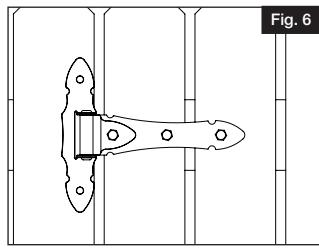

Fig. 6
- a. Position gate at desired height on post. Horizontal rails on gate should be even with horizontal rails on fence (Fig. 6).